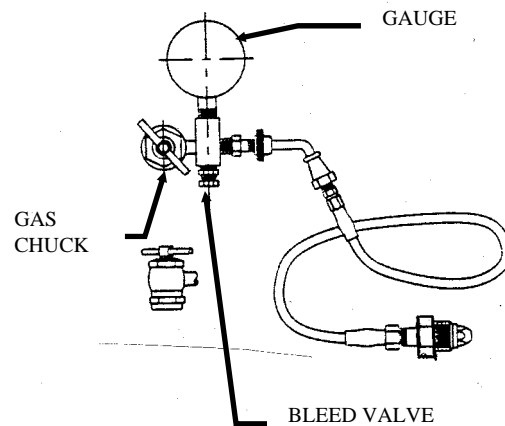

Figure 7: CHARGING ASSEMBLY
3. Before attaching charging assembly (see Figure 7) to the accumulator gas valve, back the gas chuck "T" handle all the way out (counter-clockwise).
8. If the pre-charge pressure is higher than 1200 +50/-0 PSI (8.3 +.4/-0 MPa), then close the nitrogen bottle valve and slowly open the bleed valve on the charging assembly (see Figure 7) until the pre-charge pressure is correct.